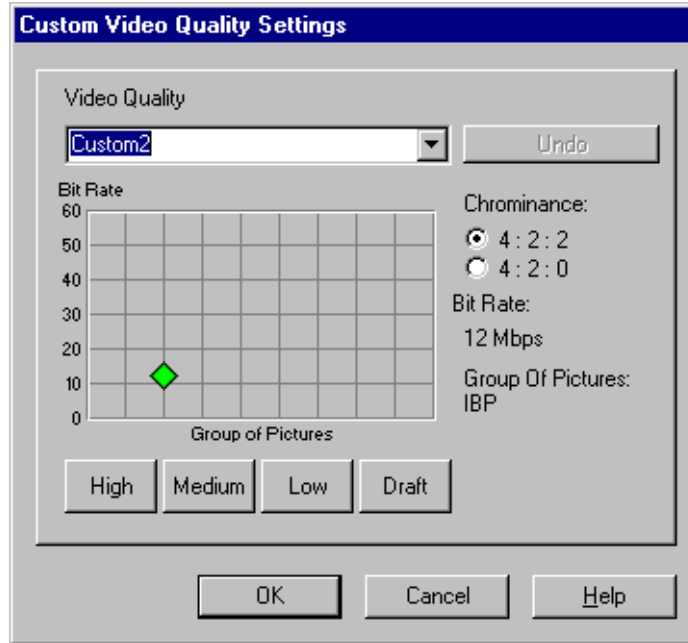

Figure 33. MPEG Custom Video Quality Settings dialog box
- For MPEG (see Figure 33 and Table 3) select a chrominance value, either **4:2:0** or **4:2:2**. Then move the diamond on the grid or click the High, Medium, Low, or Draft button—the corresponding bit rate and picture structure is shown on the right side of the dialog box.